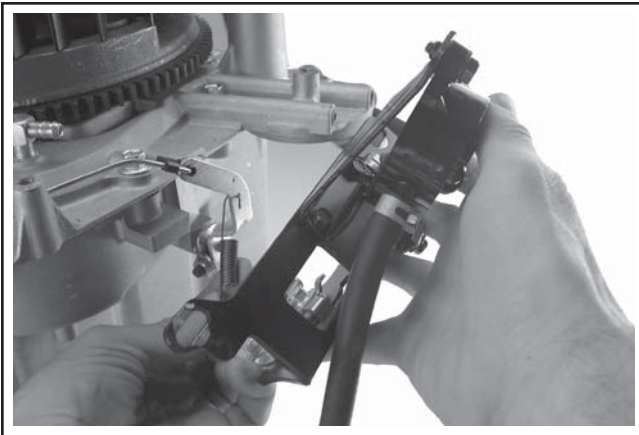

**Figure 8-15. Removing Carburetor.**
4. Slide the carburetor outward and disconnect the throttle and choke linkages. See Figure 8-15.